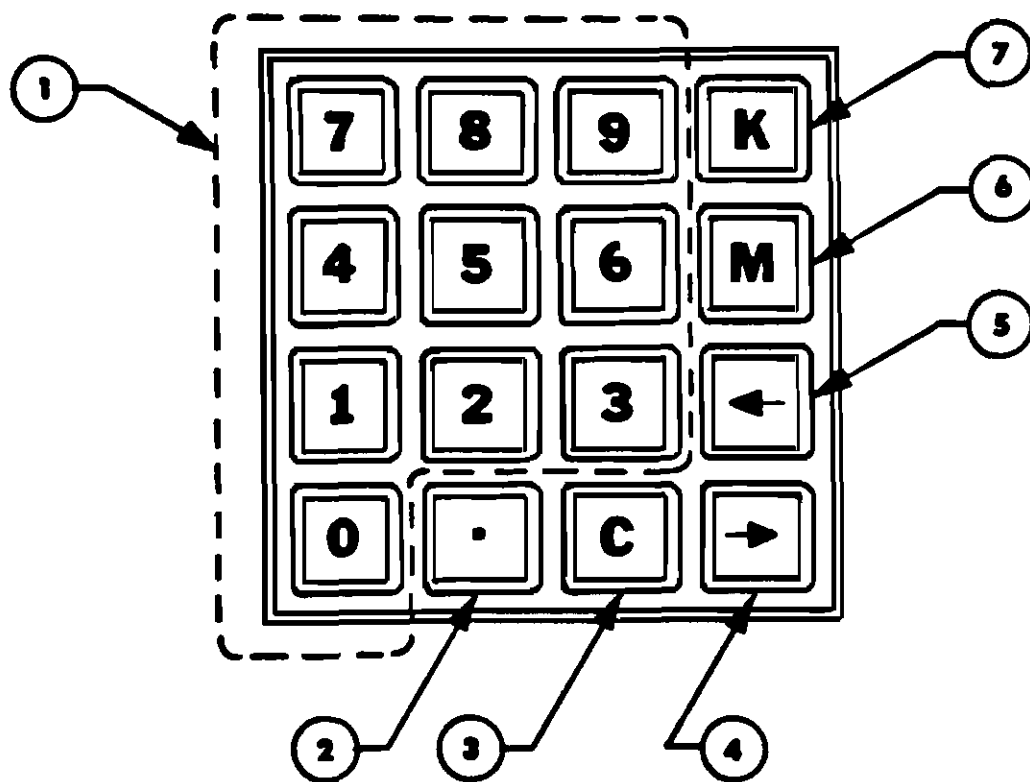

FIGURE 3-3 KEY PAD NOMENCLATURE LOCATION
Using the keyboard shown in figure 3-3, and the identifier listed in table 3-3, enter the frequency to be received by pressing the proper keys (1) in sequence, and entering the decimal point (2), until the desired frequency is displayed. Errors in values entered may be canceled by pressing the clear key (3) which will clear the entire entry and the display will indicate any previously entered value. Enter the final designator by pressing the desired terminator key, K (7) for kilohertz, or M (6) for megahertz.